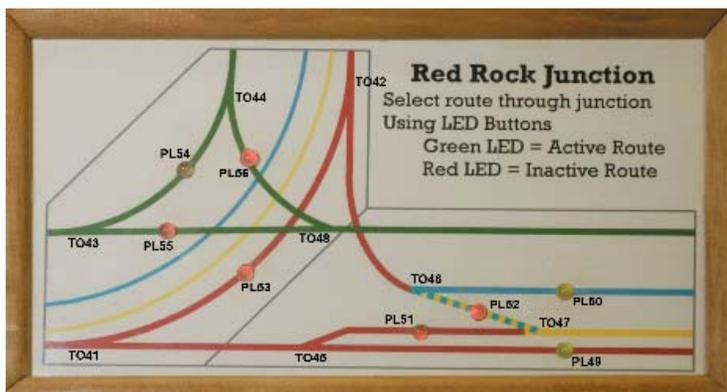
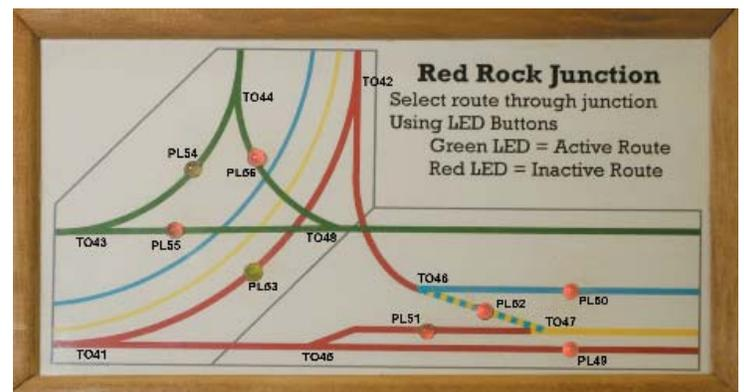

Figure 4A - Before
Figure 4B - After
As shown in Figure 4A, Push-button/LED (PL) 50 and 49 are green indicating a clear route for both the Blue Spine and Red Spine tracks to and from the main Red Line while PL 53 is red indicating the Corner route is blocked. Pressing PL 53 on any of the three panels will result in the following: throw lead of Group 53 is grounded, Group 53 state changed to thrown, PL53 turns green, LocoNet message 53T is issued, Group 53 PLs in the other panels turn green, Route controller with 53T in first cell issues the commands 41C closing Turn Out 41 (TO), 42C closing TO42, 49C turning PL 49 red, 50C turning PL50 red, 51C turning PL51 red, 52C turning PL52 red resulting in all three panels showing the Corner route selected and the Spine routes blocked as shown in Figure 4B. Of course all turnouts are changed to the appropriate position although they are not detailed in the figures above.